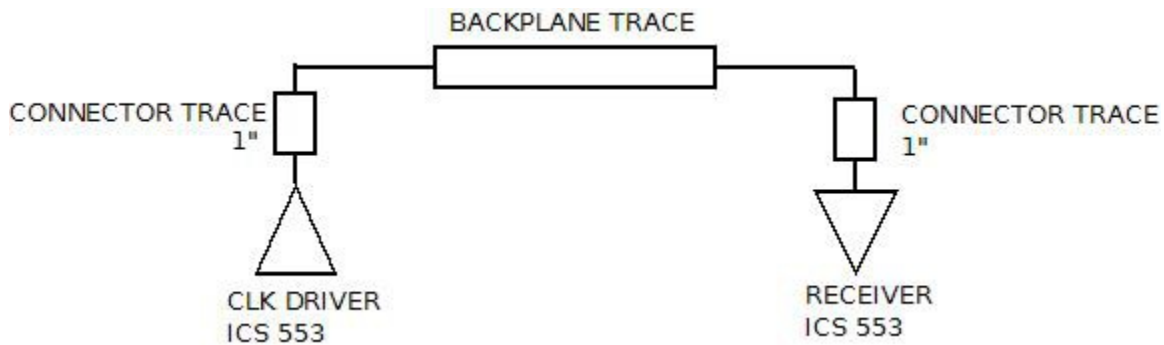

Fig 2: A topology with a clk driver driving one receiver.
Fig. 2 shows the topology where the load on the clock driver is a single slot. The backplane trace is not assigned a trace length value as it would depend on the number of slots that we intend to support and the type of design that we choose to connect the clock driver to the receivers(covered in further sections). For the case shown in Fig.2, the backplane trace length was swept from 1'' - 20'' with 1'' increments.
First, let us go through the simulation plan for the topologies as shown in figures 2 through 5.
- To find the maximum length of the backplane trace, the trace length from the driver to the receiver was swept from 1" to 20" with 1" increments, following parameters were used (for the topology in Fig.2).